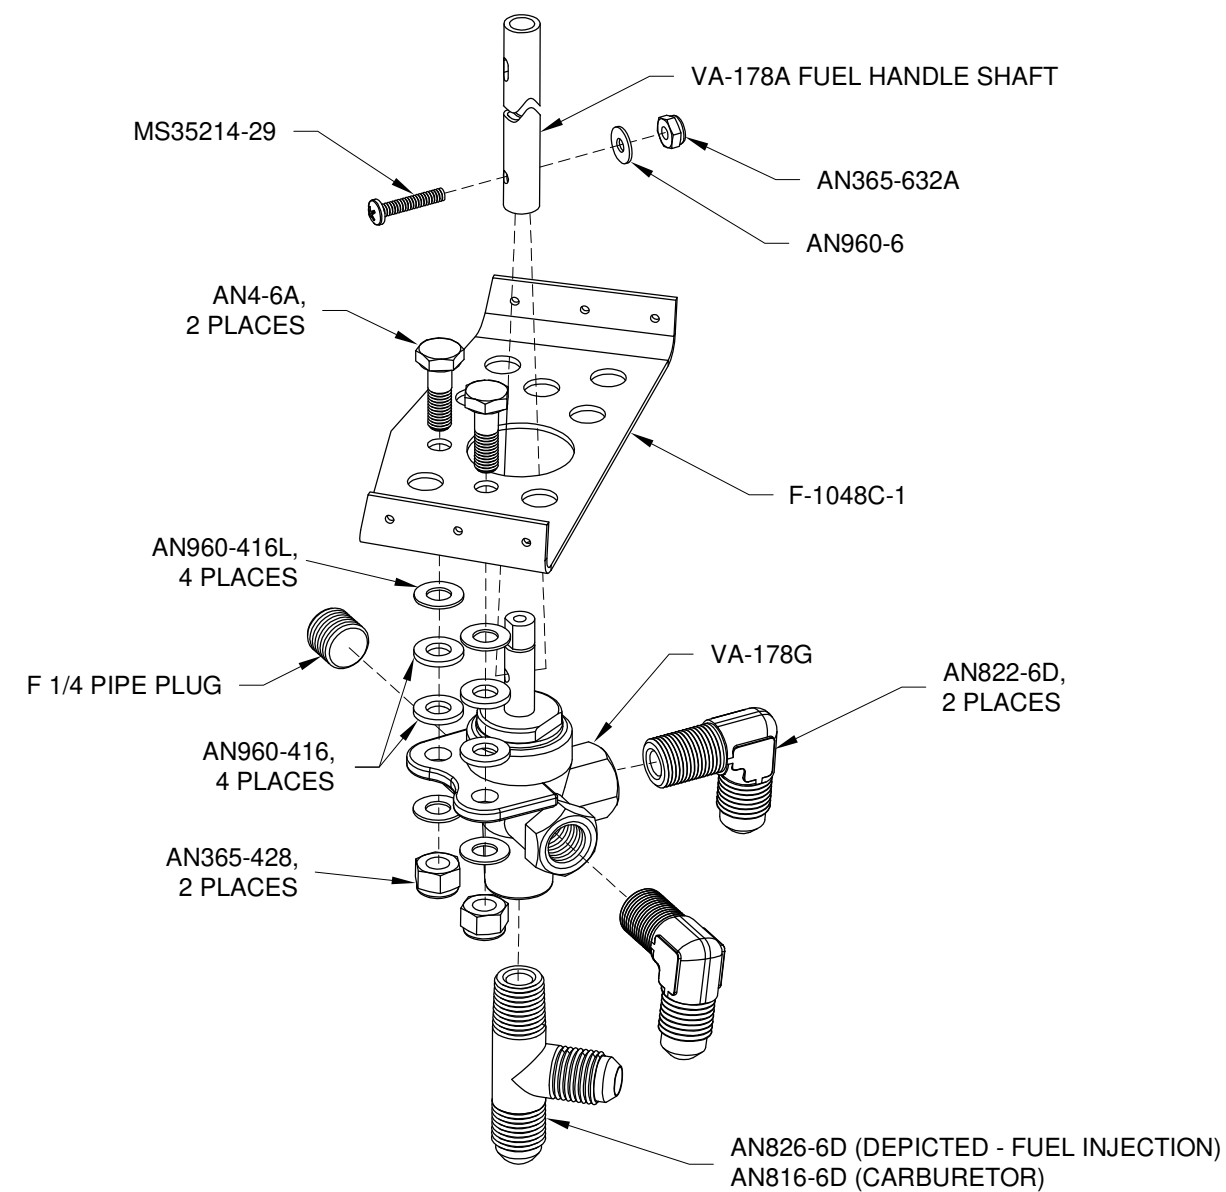

FIGURE 1: FUEL VALVE INSTALLATION
Step 1: If using a fuel injected engine install a AN826-6D Tee into the lower port of the VA-178G Fuel Valve (aim the horizontal leg of the tee forward). If using a carbureted engine, insert a AN816-6D Nipple into the bottom of the fuel valve. With the fuel valve oriented as shown in Figure 1, install a F 1/4 Pipe Plug and two AN822-6D 90° Elbows.
Step 2: Bolt the body of the VA-178G Fuel Valve to the F-1048C-1 Fuel Valve Bracket using the hardware called out in Figure 1.
Step 3: Install the VA-178A Fuel Handle Shaft to the VA-178G Fuel Valve using the hardware called out in Figure 1.